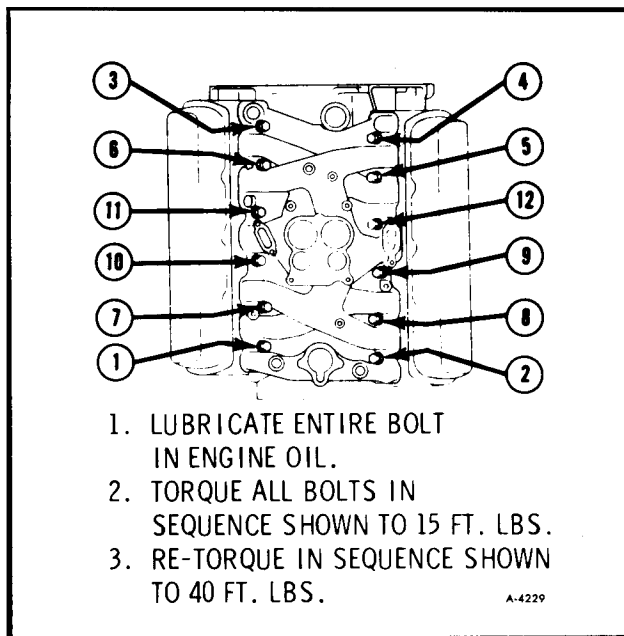

Figure 17—Intake Manifold Torque Sequence
3. Install intake manifold. Lubricate bolts entirely with engine oil, install and torque to 15 ft. lbs. in sequence. See Figure 17. Retorque in sequence to 40 ft. lbs.